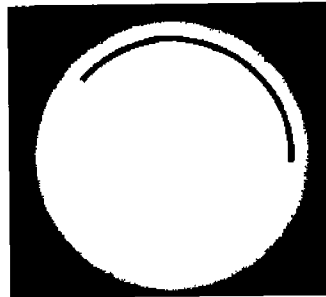

Fig 3-6. Spinning Top Continuous line Image
- Three-phase and capacitor discharge units will show a **continuous line** image (see Fig 3-6).